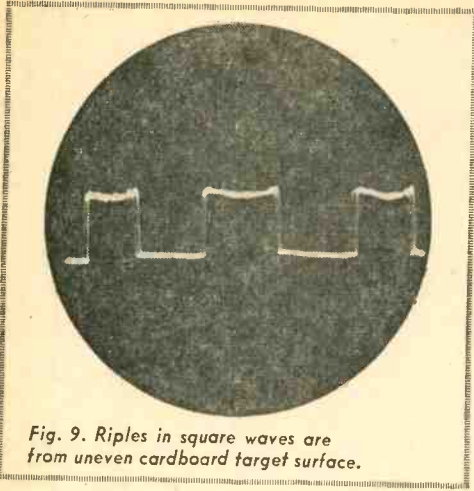

Fig. 9. Ripples in square waves are from uneven cardboard target surface.
**Square Waves.** Fig. 9 shows square waves photographed from an oscilloscope screen. These were created by the simple expedient of scanning a spinning, semi-circular white cardboard disc with the sensor probe. The sensor output was connected directly to the vertical input terminals of the scope.